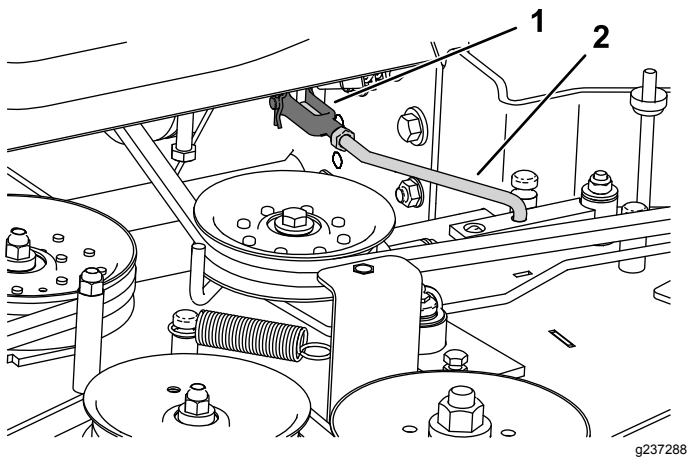

Figure 4
3. Screw the PTO engagement linkage rod into the power unit bell-crank yoke and then connect the other end to the assist arm and secure it with the hairpin cotter (Figure 4).